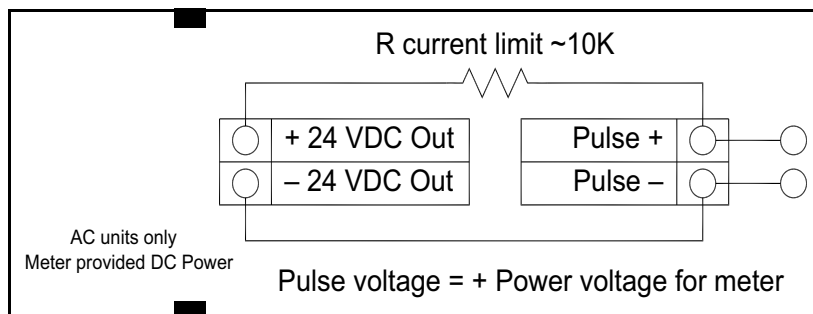

Figure 44: Isolated Pulse Output Using Provided Power Supply
- For AC powered meters only, use the internal 24 VDC power supply (see Figure 44 on page 44). Use this option if the voltage of the pulse output is the same as the voltage supplied to the circuit.